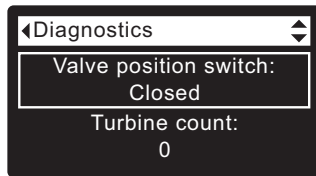

FIG. 113
2. Press the DOWN (▼) button to scroll through the list until **Valve position switch** is displayed (See Figure 113).